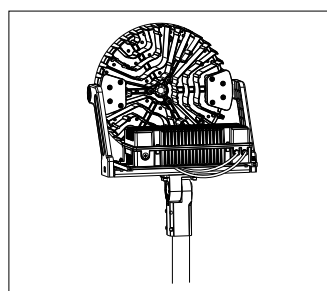

Figure 11
2. Insert the bracket into the pole and securely tighten the four bolts (Figure 11).